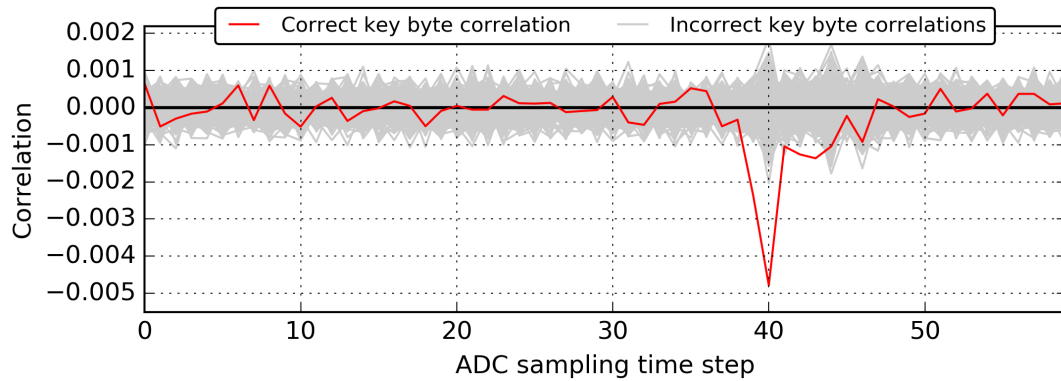

Figure 2: Another example correlation diagram of an AES implementation. The correct key byte correlates fine at an ADC sampling time step of 40
- Correlation plots usually mark the trace of the correct key candidate in red/black and all others in grey. For example, see the progress plot in Figure 2 or another completed correlation plot in Figure 2. You can check for example the paper in [4] to see other examples of a final correlation or a progress plot.